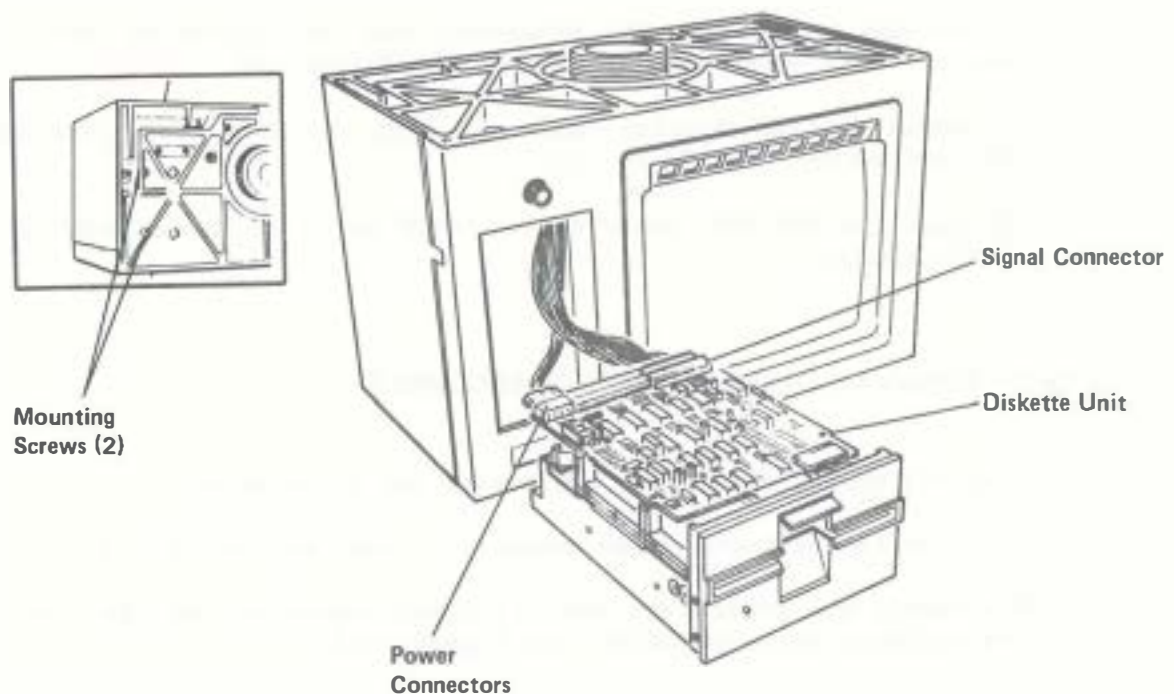

Figure 5-21. 5 $\frac{1}{4}$ " Diskette Drive
5. Carefully place the assembly upside down on a flat surface so that the two diskette mounting screws under the CRT are visible. It may be necessary to loosen the gimbal and rotate the bridge to gain access to the mounting screws. See Figure 5-21.
1. Reconnect the two connectors to the diskette drive. Be sure the connectors are seated properly. See Figure 5-21.
2. Carefully slide the diskette drive into the CRT display unit housing and secure it with the two mounting screws. See Figure 5-21.